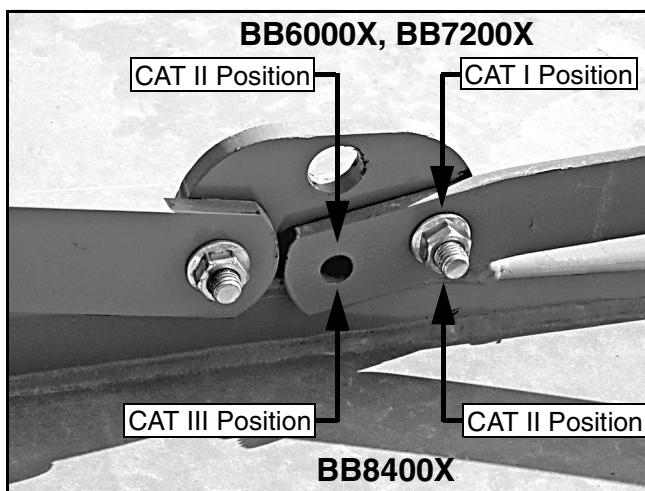
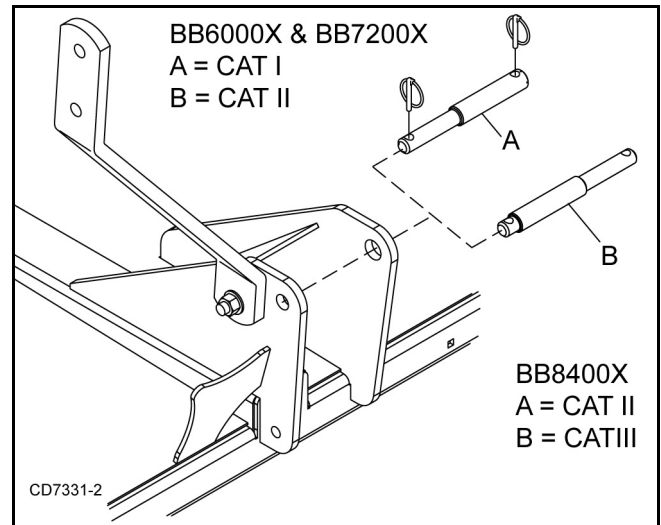

Figure 3. Left Rail Mounting Lug
Figure 4. Mounting Pin Installation
Refer to Figure 3 and Figure 4.
3. Install mounting pins as shown in Figure 4 for correct hitch configuration.